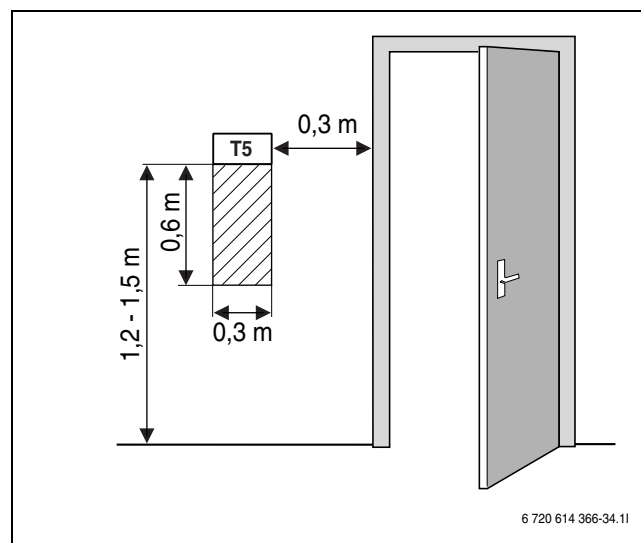

Fig. 20 Recommended installation location for room sensor T5
- Unimpeded circulation of room air under room sensor T5 (dotted area in figure 20 must be kept clear).